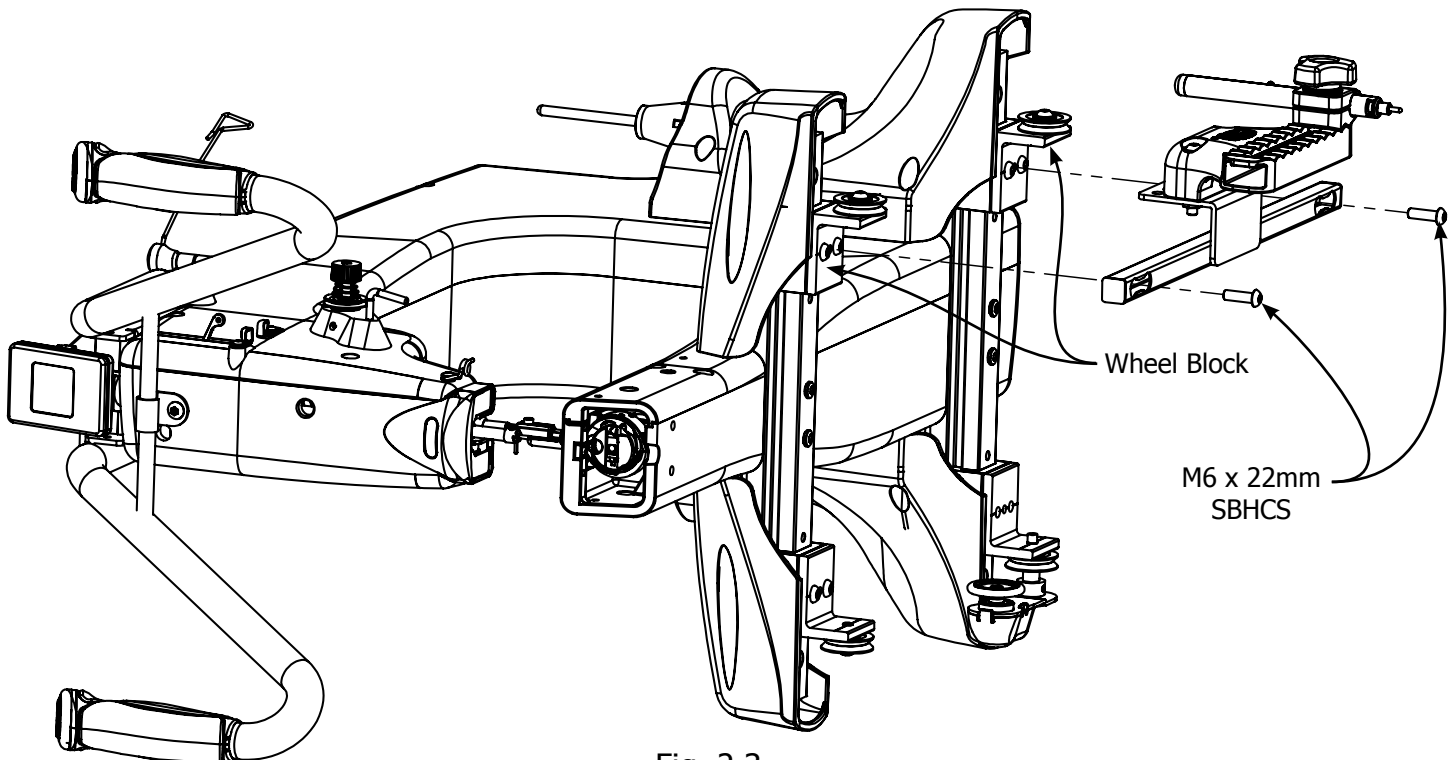

Fig. 2.3
Step 3: Place the Pattern Perfect Bracket on the wheel blocks, against the Heads of the Screws, and with the center hole on each wheel block aligned to be center with the slot on the Pattern Perfect Bracket as shown in Fig. 2.3.